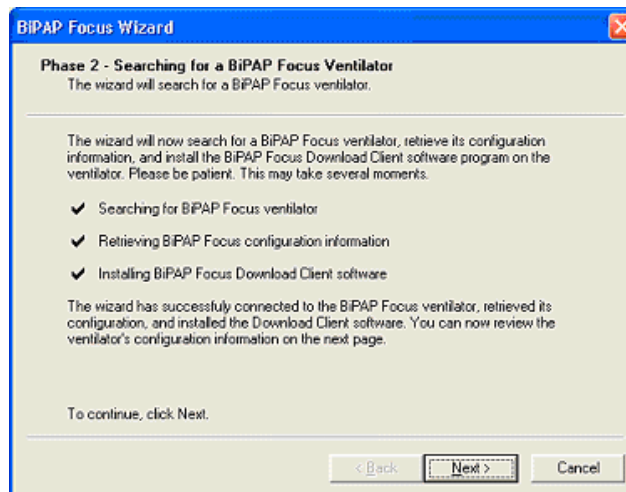

Figure 6-23: Communications Software Connection
4. The software connection process dialog box appears identifying the steps including, Searching for the ventilator, retrieving ventilator configuration information, and installing the communications software (Figure 6-23).